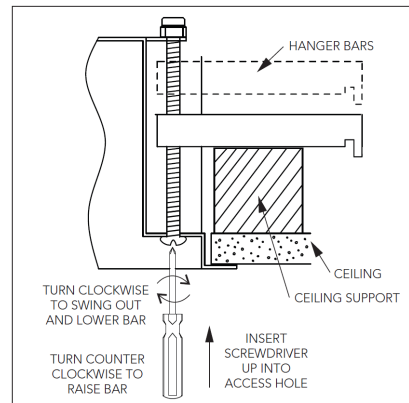

Figure 6
- g.) Check to make sure that the tape is removed from the (4) sway bar brackets located at the corners of the fixture housing. Once the tape is removed, make sure that the sway bar wings are pushed against the housing wall.
- j.) Hold the fixture in place against the ceiling. Allow the lensed door to hang open. Locate the (4) sway bracket adjustment screws located at the four corners of the housing. These are accessible from the inside of the housing. Use a Phillips screwdriver to turn the screws clockwise. (See Figure 6) This swings the bracket wing out away from the fixture and allows it to rest on the top side of the ceiling opening framing. When all (4) bracket wings have been swung away from the fixture, the fixture can support itself on the framing.
- k.) Continue turning the adjustment screws, alternating between the (4) corners, until the fixture and its flange pull up tight against the ceiling surface.